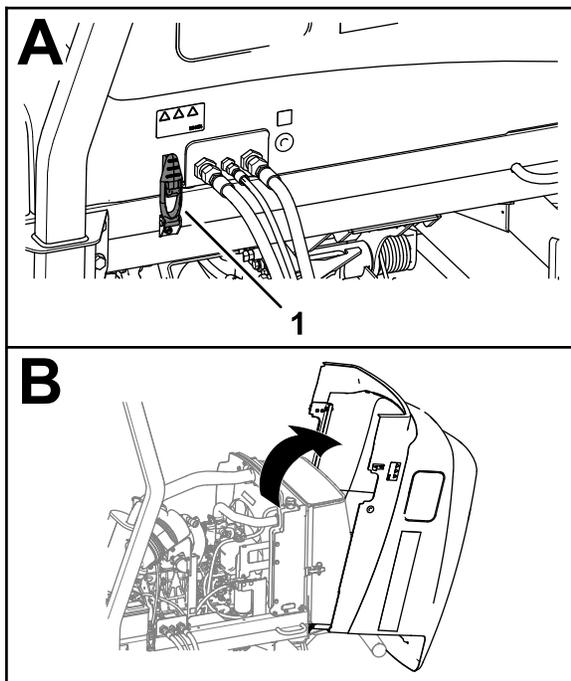

Figure 60
1. Release the 2 hood latches (Figure 60).